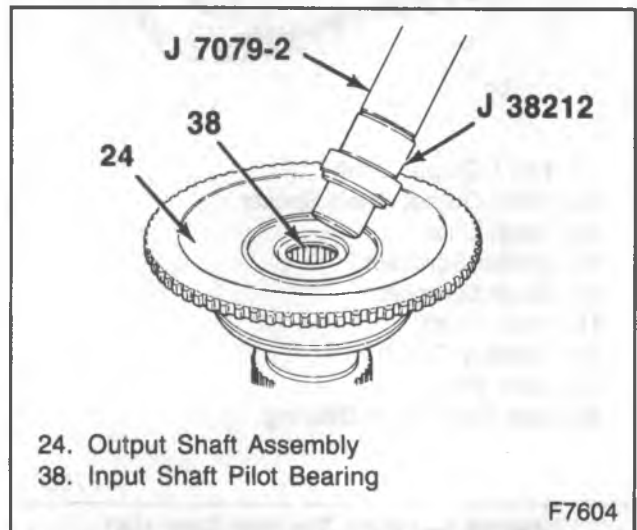

Figure 12—Installing the Input Shaft Pilot Bearing
2. Input shaft pilot bearing (38) into the output shaft assembly (24) using J 7079-2 Driver Handle and J 38212 Needle Bearing Installer (Figure 12).
3. Output shaft assembly (24) to the gear ring (30).